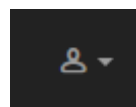

Figure 10. Partner Portal (Profile icon)
3. Hover the mouse cursor over the Profile icon in the upper right-hand corner of the web page (Figure 10 \(page 42\)). Click the **Account** option.